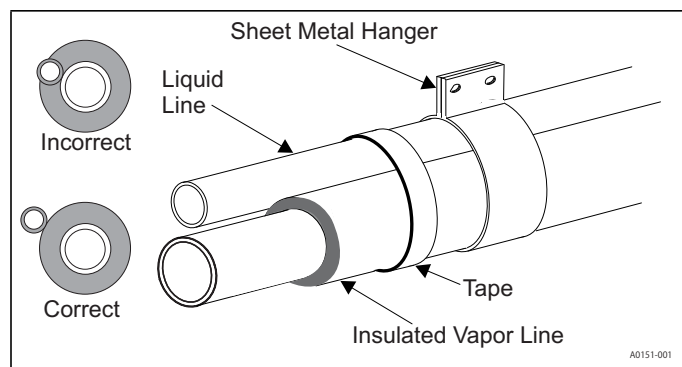

Figure 3: Installation of vapor line
5. Tape and suspend the refrigerant lines as shown in Figure 3. Do not allow tube metal-to-metal contact.